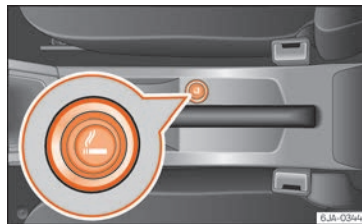

Fig. 152 Centre console: lighter.
The cigarette lighter is located at the front of the centre console »» Fig. 152.
- Press the cigarette lighter knob »» Fig. 152.